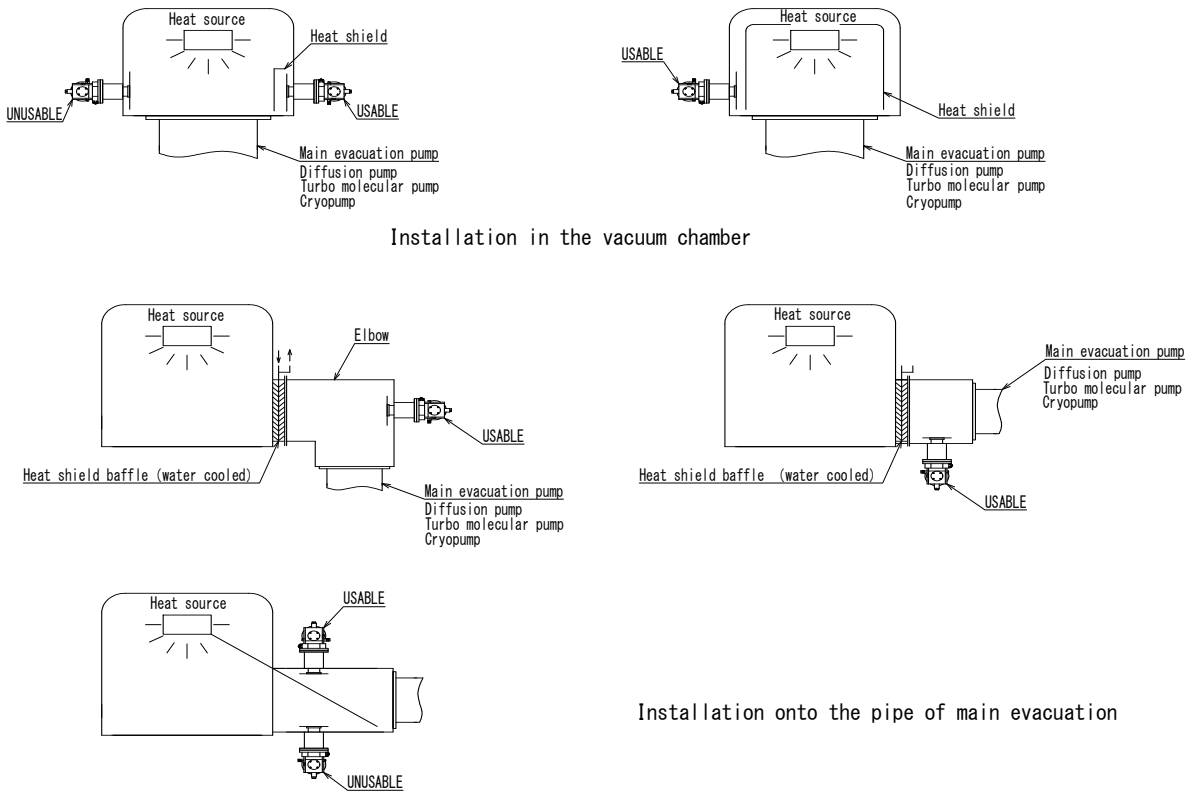

Figure 3-7 Installation to the Vacuum System with Heat Source (In-Situ)
- ◇ If the chamber has any heat source, install the Super Trap not to face directly to the heat source. Refer to Figure 3-7 for recommended mounting locations.